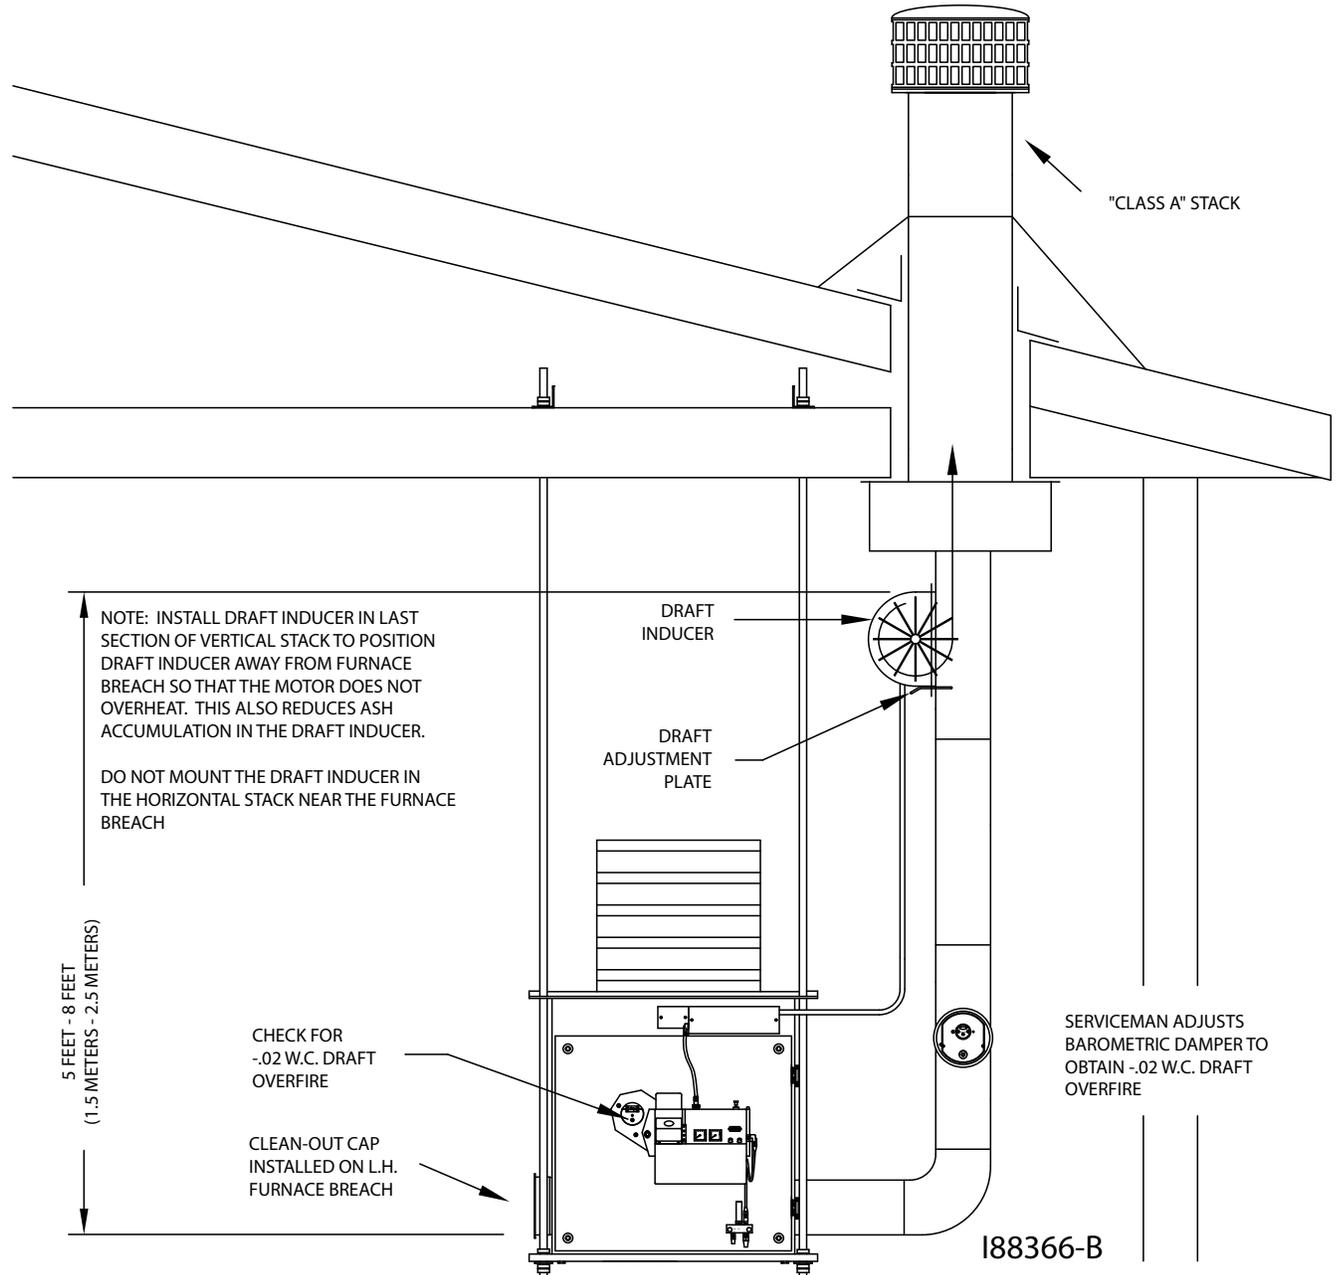

Figure 4R - Installation of the Draft Inducer
The draft inducer is designed to aid in the removal of the natural draft created by the appliance to vent the combustion gases to the outside of the building. As the paddle wheel turns, a negative pressure is maintained within the stack so that the combustion gases can leave the furnace and travel out of the stack. (See Figure 4R.) ***Proper sizing, installation, and adjustment of the draft inducer are critical for optimal draft inducer operation.***
1. Refer to Figure 4R. Follow the instructions included with the draft inducer to mount the draft inducer on the section of single-wall vertical stack.